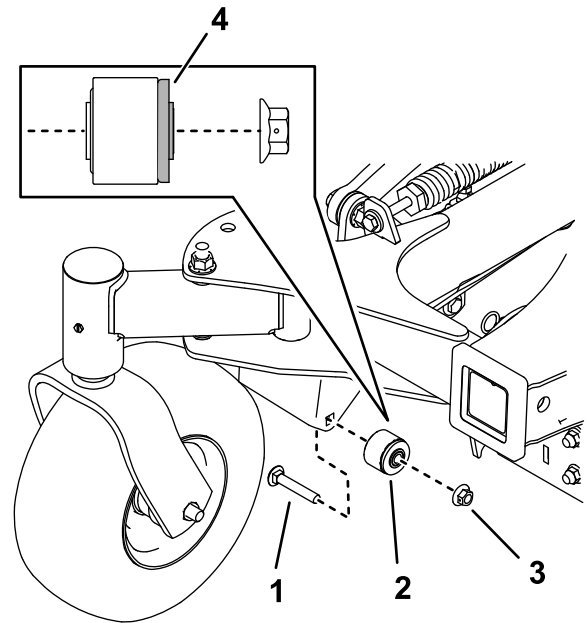

Figure 9
9. Use a carriage bolt (3/8 x 2-1/4 inches) and nut (3/8 inch) to install the bushing assemblies to the machine (Figure 9). Torque the bolt to 37 to 45 N·m (27 to 33 ft-lb).
Note: The rubber flange of the bushing should face toward the inside of the machine as shown in Figure 9.